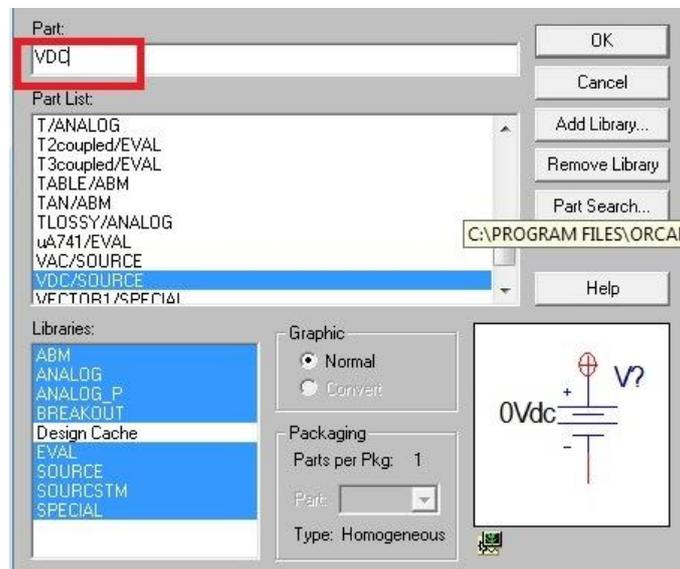

Figure 12
- Write “VDC” to the part space as shown in figure 12 below. When you click ok button, you can add a voltage source to your project. Add two voltage source and then click place part button again to add another component.